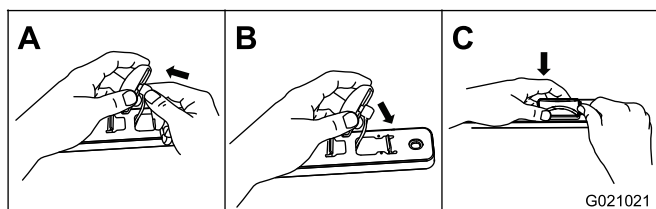

Figure 59
3. Connect the wire connector to a new lens assembly, and install the lens assembly onto the rest of the center-light assembly (Figure 59).